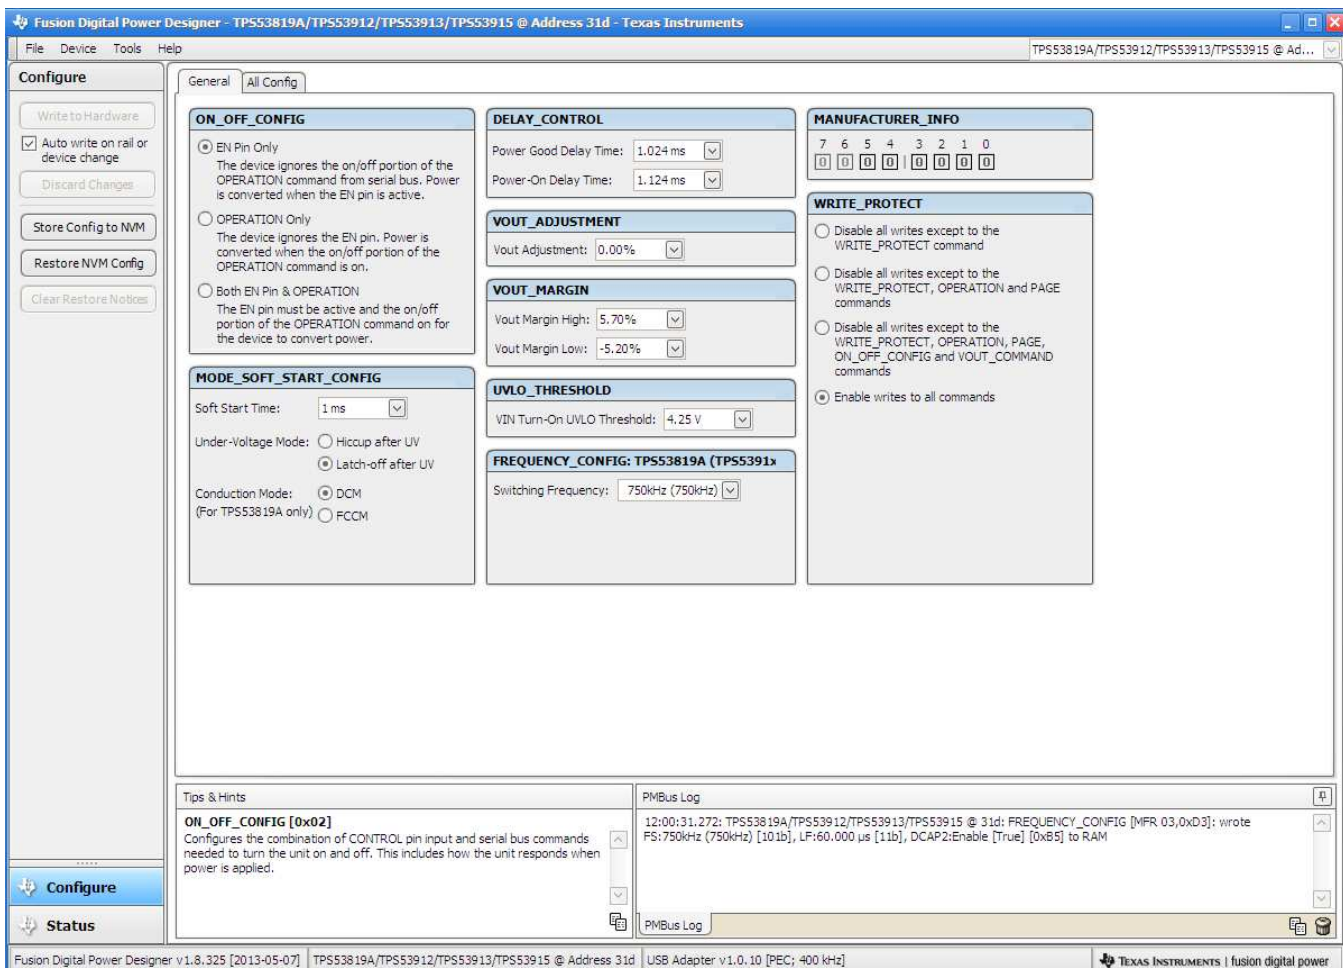

Figure 5. GUI for the Fusion Digital Power Designer
10. When the GUI is loaded (see Figure 5), verify communication between the GUI and the EVM by changing the frequency of the EVM.